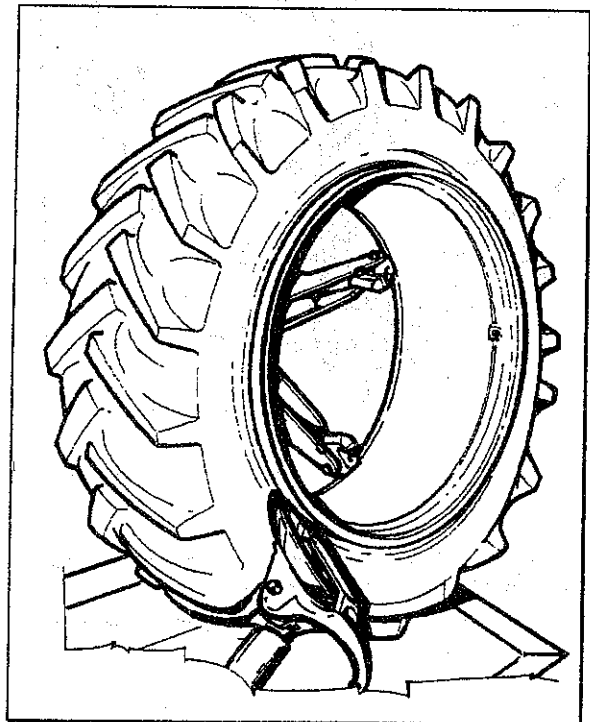

Fig.44
3. Break the outer bead in the same way, taking care not to damage the valve stem (Fig.44).